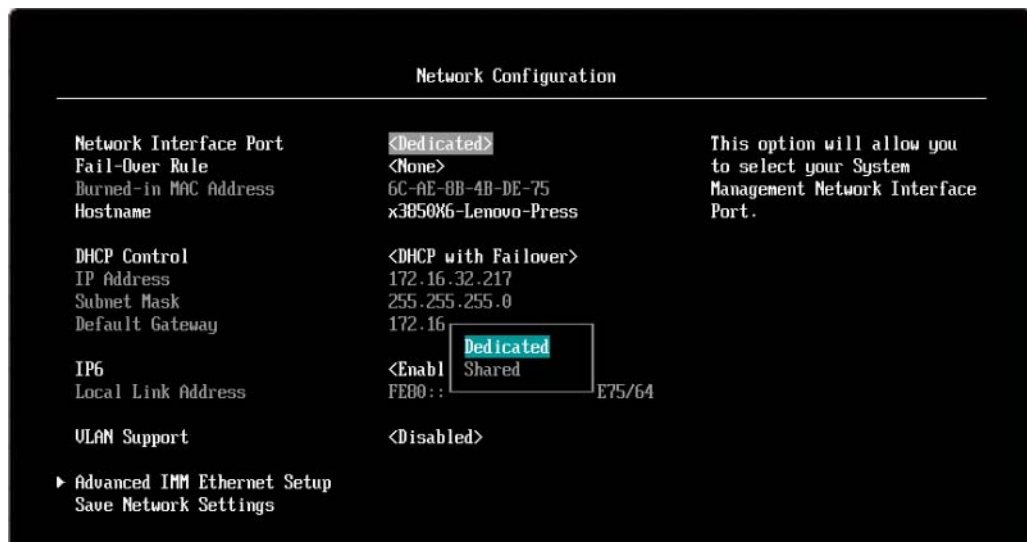

Figure 7-2 IMM2 Network Configuration panel
5. Select **Network Configuration** from the IMM. By using this menu, you can configure the network settings for the IMM2. Also, you can configure the IMM2 to share the use of ML2 or out-of-band management from this menu, as shown in Figure 7-2.